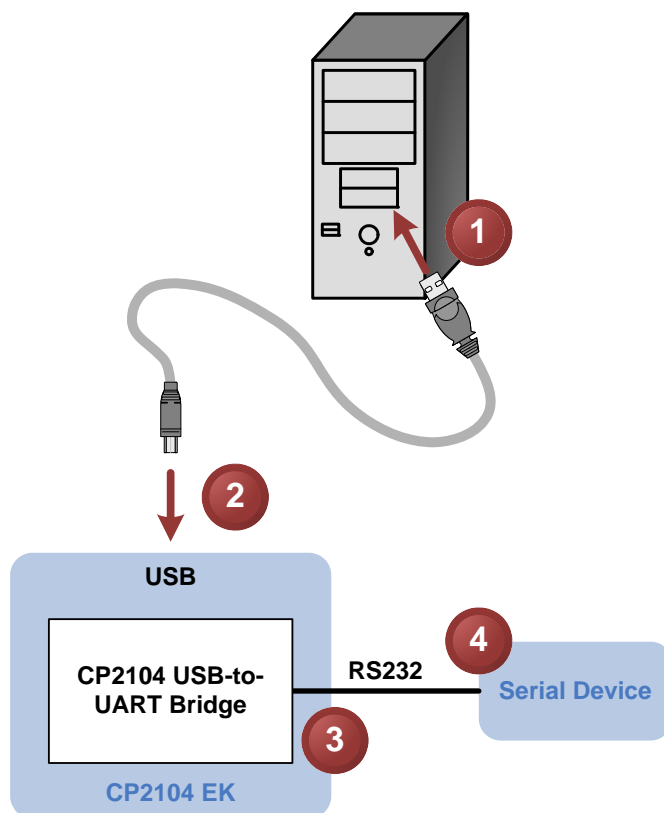
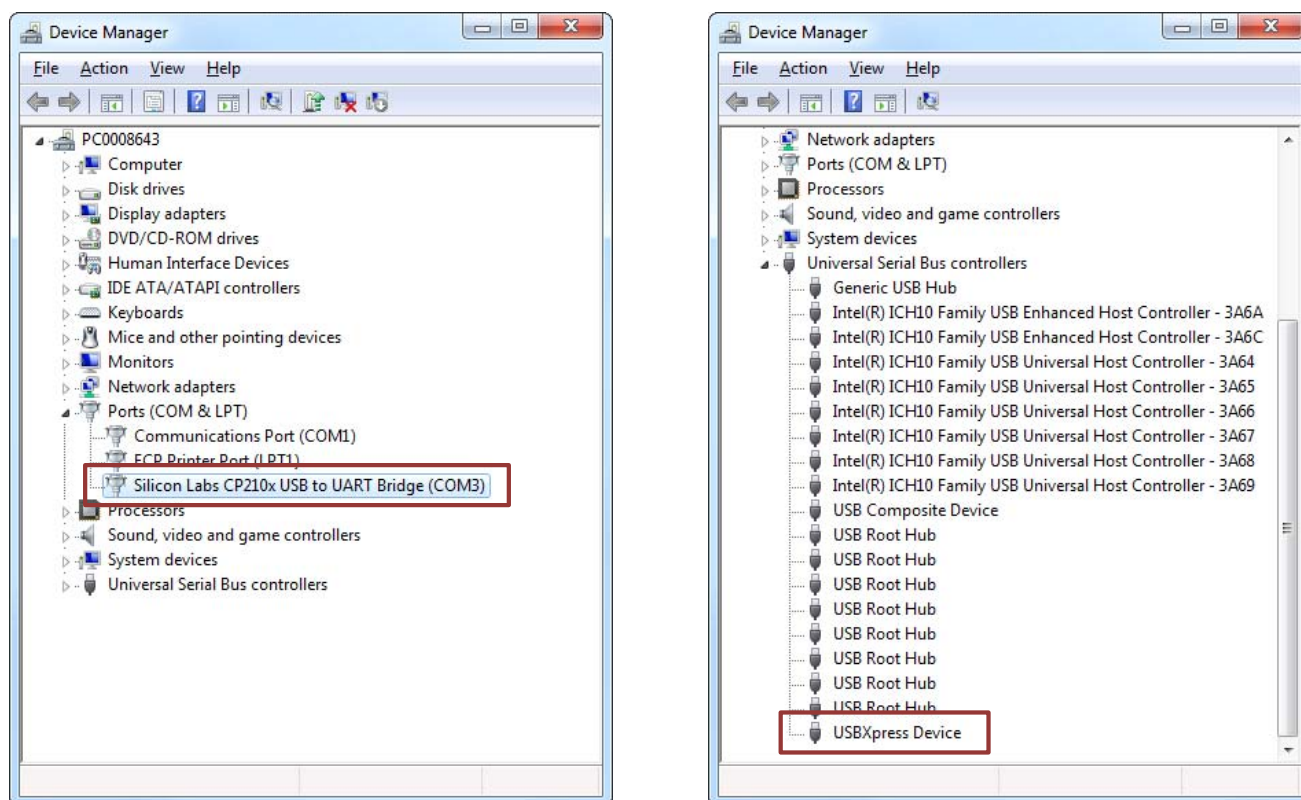

Figure 1. Hardware Setup
Figure 2. CP2104 in Device Manager
The evaluation board is connected to a PC as shown in Figure 1.
If the Virtual COM Port drivers are used, the CP2104 will appear as a COM port in the Device Manager, as shown in Figure 2. The CP2104 will always use the lowest available COM port for operation. For instance, if COM ports 1 and 2 are in use by other peripherals and applications, the CP2104 will use COM 3.
If the USBXpress drivers are used, the CP2104 will appear as a USB USBXpress device as shown in Figure 2. Examples for how to communicate with the device using the USBXpress interface are included in AN169 on the www.silabs.com/interface-appnotes page.
- Updated Figure 1 and Figure 2.